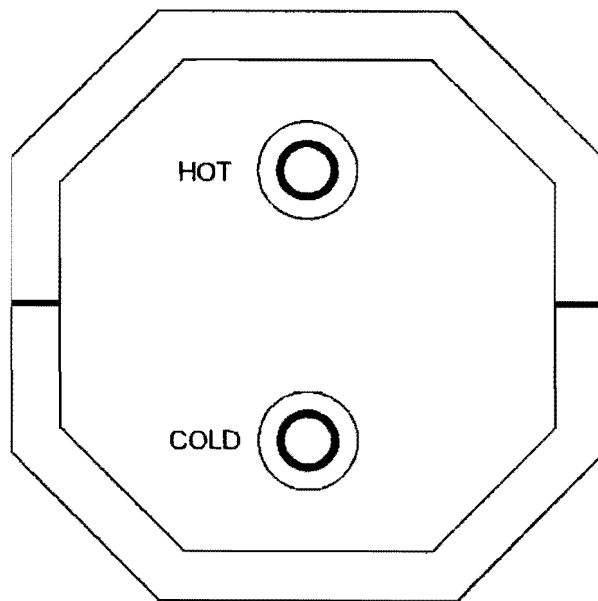

Figure 4
A. Water connections are made at the rear of the water heater. See Figure 4. Connect the hot and cold water lines to the 1/2" female pipe fitting provided on rear of tank. These fittings are marked "HOT" and "COLD". NOTE: Inside each fitting is a plastic fill tube. Its purpose is to enhance water circulation. DO NOT REMOVE PLASTIC FILL TUBE.